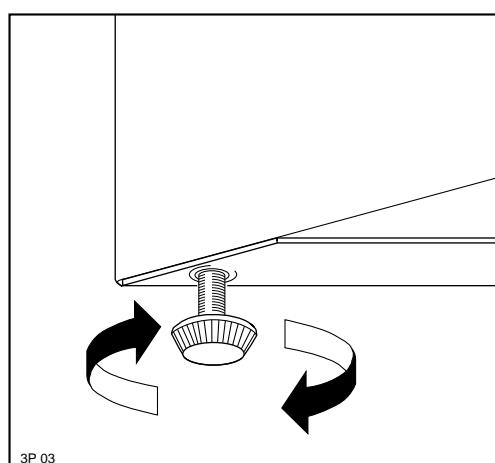

Fig. 2
The refrigerator should be carefully levelled, adjusting the feet as shown in Fig. 2.
The temperature setting is adjusted by pressing button (C) and keeping it pressed in for more than 4 seconds; a progressively lower figure is shown by indicator (B) every 2 seconds (between 8 and 2). If the button is held in after the figure 2 has appeared, the indicator will return to 8 and then continue to cycle through progressively lower figures.